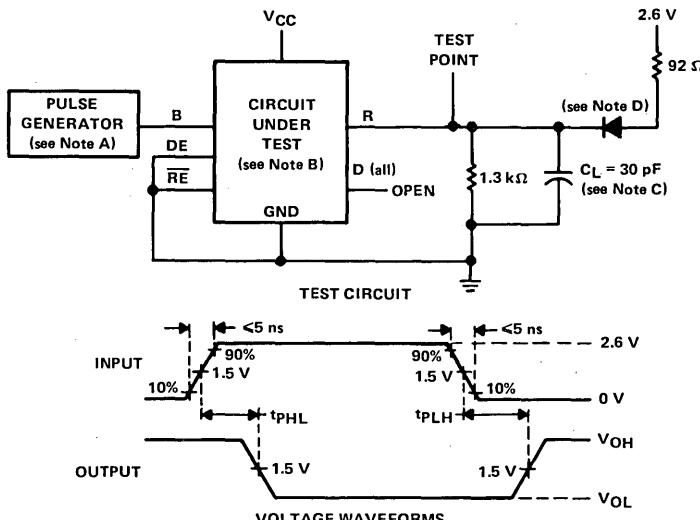

FIGURE 1. PROPAGATION DELAY TIMES FROM BUS TO RECEIVER OUTPUT
- NOTES: A. The pulse generator in Figures 1 and 2 has the following characteristics: PRR  $\leq$  10 MHz, duty cycle = 50%,  $Z_{out} \approx 50 \Omega$ .